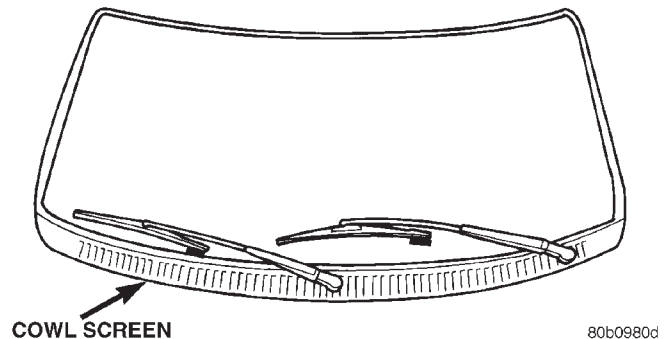

Fig. 17 Arm Adjustment
- (1) Lift arms and blade assemble to a over centered position.
- (2) Turn ignition switch to ON or ACC position.
- (3) Use LOW speed setting and cycle the wiper motor to the PARK position.
- (4) Turn ignition OFF.
- (5) Carefully lower arm and blades to the windshield.
- (6) Measure the distance from the blade tip to the cowl screen edge. The blade should be 18 to 42 mm (.75 to 1.60 ins.).
- (7) If not OK, check for worn parts.
- (8) In the event the blade tip strikes the cowl screen or molding remove arm. Position arm on windshield and tighten to 33 to 40 N·m (23 to 29 ft. lbs.) torque (Fig. 17).